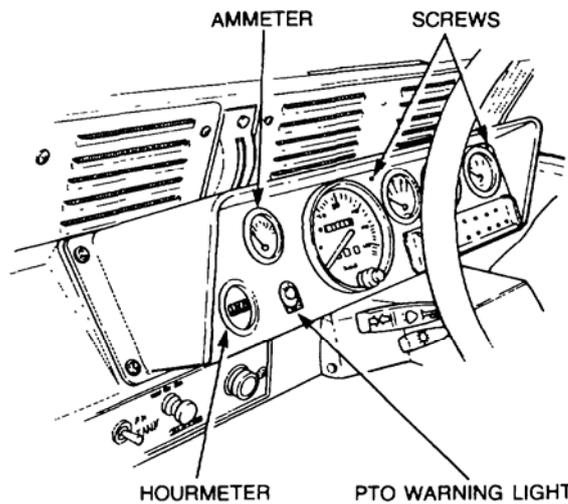

Figure 7 Instrument Panel Removal
- b. Remove the five screws retaining the instrument panel (refer Figure 7).